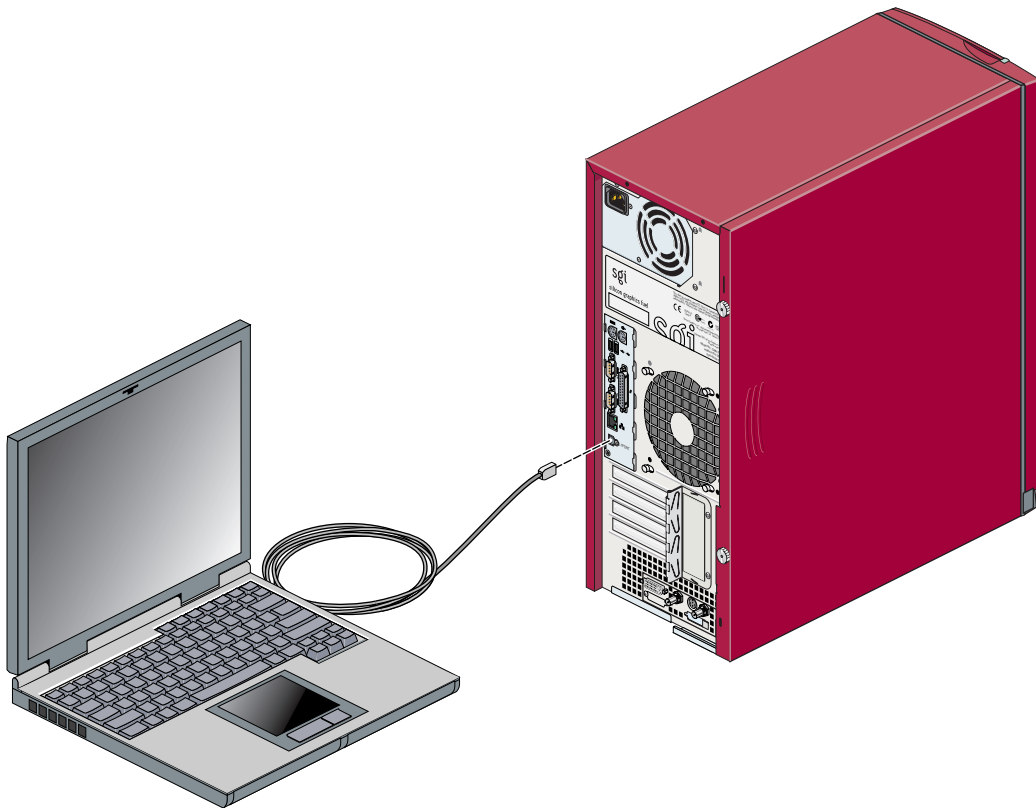

Figure 2-13 Connecting a System to the Diagnostic Port to Run the `scan_asterix` Script
1. Connect a USB cable from an external system that is running the L3 controller software to the diagnostic port on the back of the workstation. (Refer to Figure 2-13.)